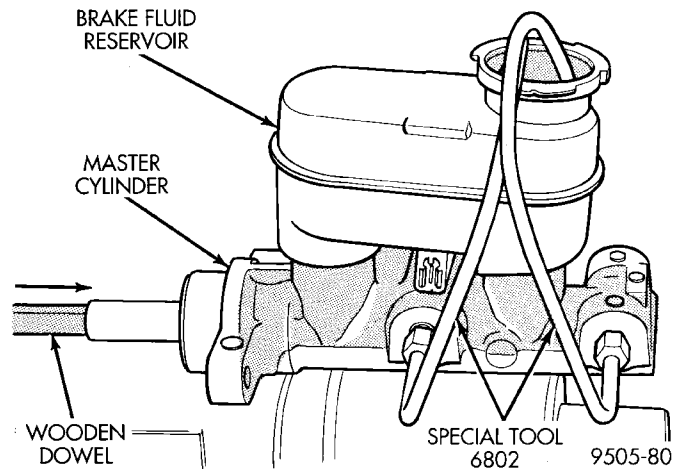

Fig. 108 Bleeding Master Cylinder
(2) Fill brake fluid reservoir with brake fluid conforming to DOT 3 specifications such as Mopar or an Equivalent.
(3) Using a wooden dowel per (Fig. 108), depress push rod slowly and then allow pistons to return to released position. Repeat several times until all air bubbles are expelled.